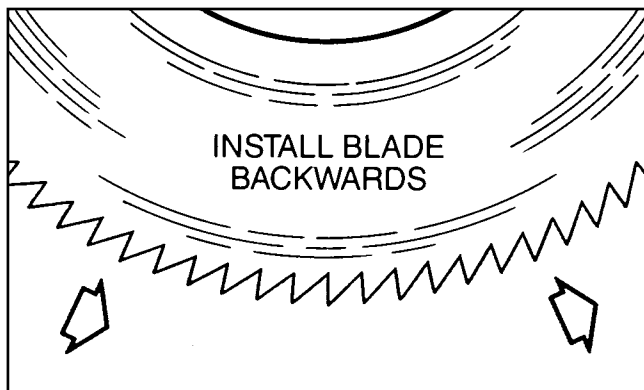

Fig 2.1
1. Using a **circular saw**, install a fine-toothed blade **backwards** (Figs. 2.1 and 2.2) This gives a smoother, cleaner cut. **Do not attempt to cut materials other than vinyl/ with a reversed direction saw blade.** Cut slowly to avoid chipping or cracking (especially in cold weather).